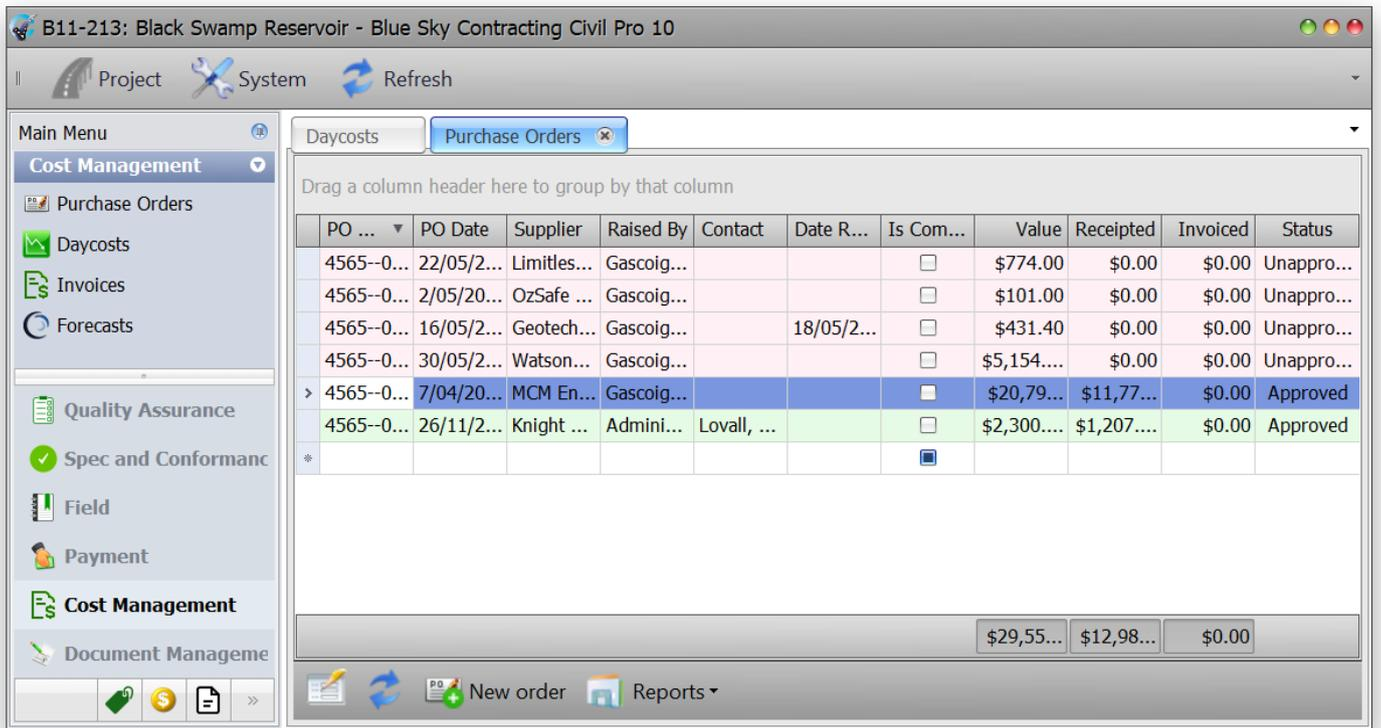

Figure 110 May Purchase Orders in Register
- You will now be taken back to the Purchase Order Register where the imported May POs will now be included. Your screen should look like Figure 110.